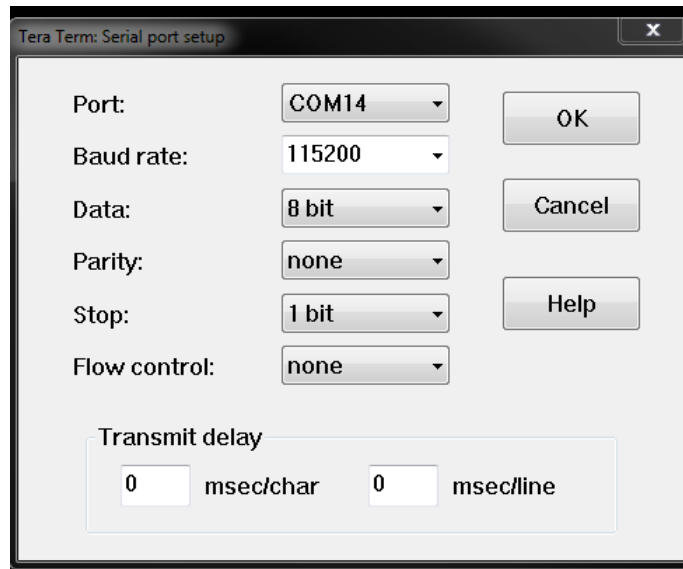

Figure 3. Serial Port Setup
8. An example configuration of the com terminal is shown in Figure 3 if the test log is to be viewed via the UART terminal. Select "Port" based upon the COM port number of the UART terminal connection.